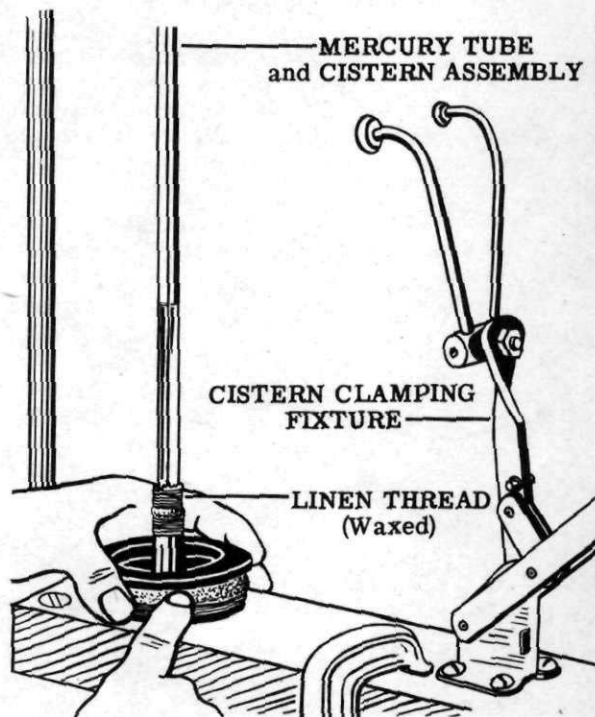

Figure 53
62. The mercury tube and cistern assembly will now be supported in the cistern clamping fixture, Tool No. 1. See Fig. 53.
65. When the winding is two-thirds of the way towards the end of the seal, remove the temporary wire binder. When the winding is at the end of the seal, make a single knot next to the last turn and then tie a double box knot. Using scissors, cut off the excess lengths of thread. See Fig. 53.
66. Trim off the end of the seal neatly with the sharp, pointed scissors, Tool No. 14. With the forming tool (Tool No. 12), flatten the knots to form a smooth surface all around the seal. See Fig. 53. See the "Special Service Tool List" in Section VIII for details of the special tools used here.